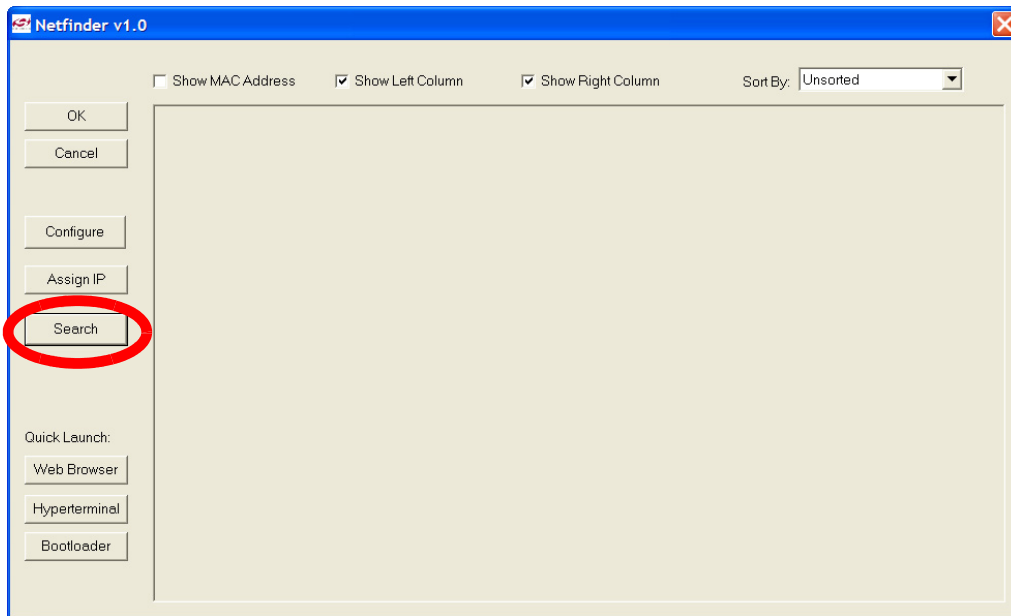

Figure 18. Search Button
1. Press the **Search** button as shown in Figure 18 to begin searching for devices.